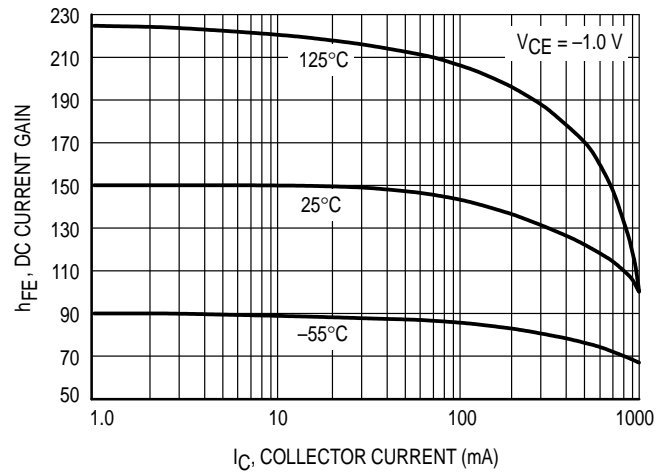

Figure 2. DC Current Gain versus Collector Current
| Base–Emitter Saturation Voltage (1) (Figure 2)( $I_C = -1.0\text{ A}$ , $I_B = -0.1\text{ A}$ )   | $V_{BE(sat)}$ | —                      | -1.2                    | V                |